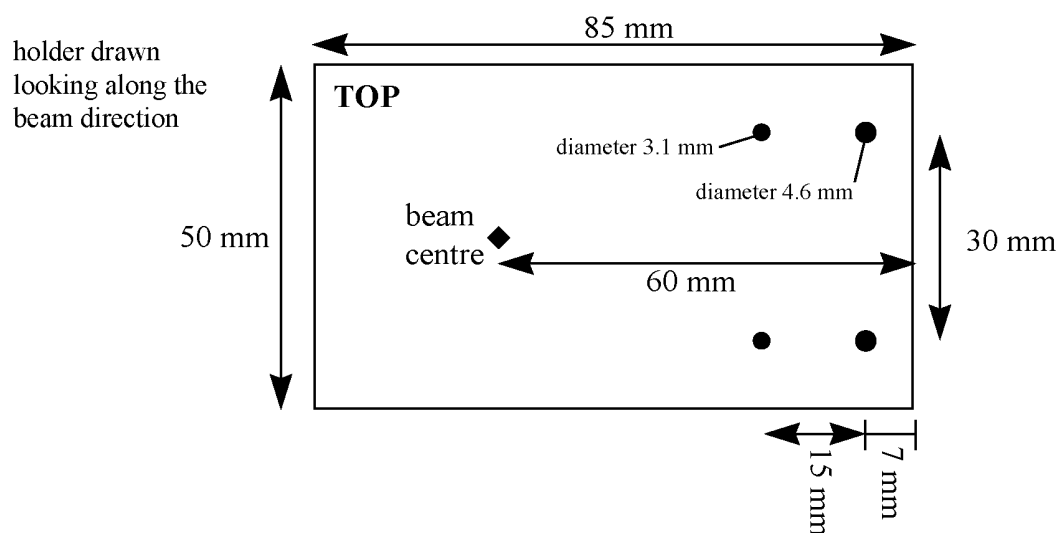

Figure 7: Sample holder for CCR
2. Screw the sample blade (see Fig. 7) onto the end of the CCR, using the small brass screws provided.
A sample holder drawn in Fig. 7 shows its typical dimensions and is looking along the beam direction. There are a few versions, including fly-past holders. The holder is made of aluminium, titanium, or silver (fly-past holders), so therefore non-magnetic. Ask your local contact for the best way of mounting your sample.